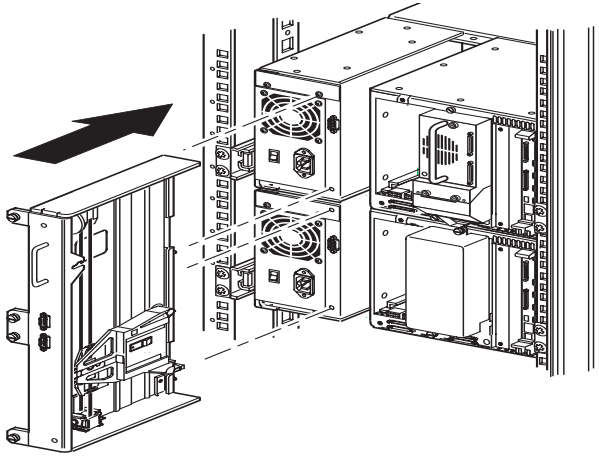

Figure 9 Installing the PTM base unit
4. Install the PTM base unit (see Figure 9).
1. Use the handle while supporting the PTM base unit from the bottom (see Figure 9 on page 20).